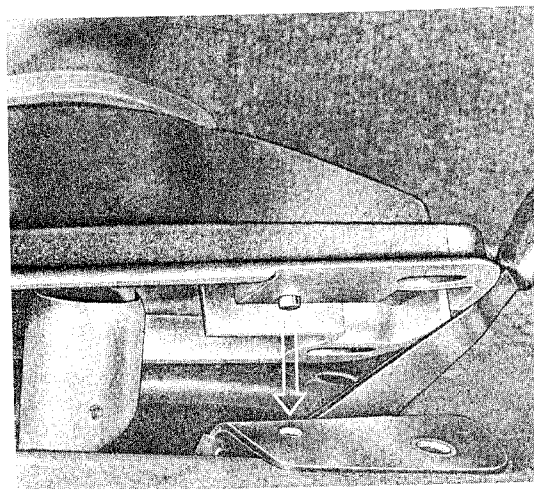

Fig. 3
3. Mount shift lever assembly taking care that the guide dowel fits into the hole provided for aligning the lever bracket (Fig. 3).